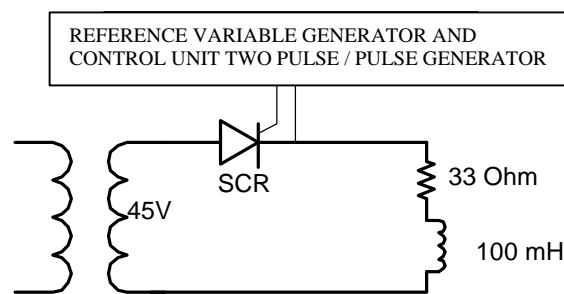

Figure 2
- i) The R-load is replaced with R-L load in series as shown in Figure 2.